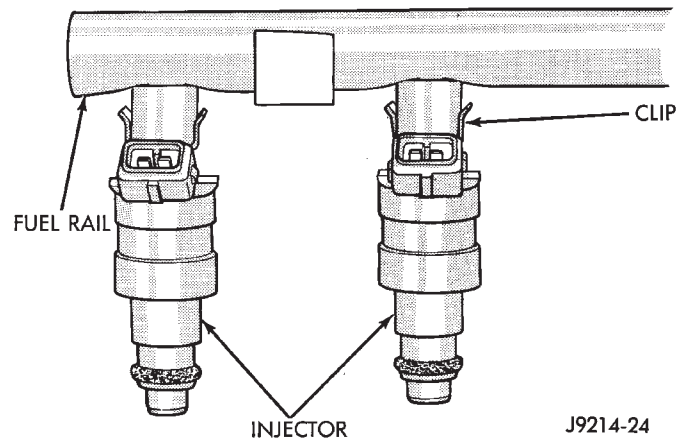

Fig. 33 Fuel Injector Mounting—Typical
(8) Remove the remaining fuel rail mounting bolts.
(9) Gently rock and pull the **left** fuel rail until the fuel injectors just start to clear the intake manifold. Gently rock and pull the **right** fuel rail until the fuel injectors just start to clear the intake manifold. Repeat this procedure (left/right) until all fuel injectors have cleared the intake manifold.
(10) Remove fuel rail (with injectors attached) from engine.
(11) Remove the clip(s) retaining the injector(s) to fuel rail (Fig. 33) or (Fig. 34).
- (1) Remove air duct at throttle body.
- (2) Remove fuel injector rail assembly. Refer to Fuel Injector Rail removal in this section.
- (3) Remove the clip(s) retaining the injector(s) to fuel rail (Fig. 33) or (Fig. 34).
- (4) Remove injector(s) from fuel rail.